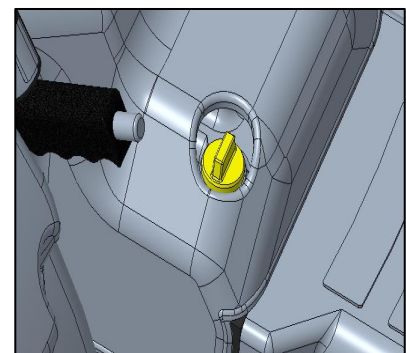

Fig.5.4
- The oil level in the transmission must be over the midline between the minimum and maximum marks of the dipstick (Fig.5-4) with the lift link in the up position.